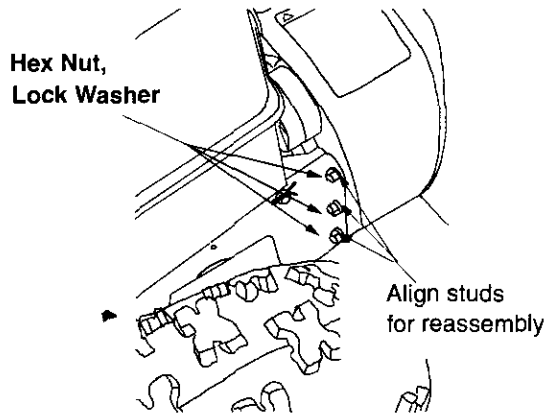

Figure 26
- Remove the six hex nuts and lock washers which attach the auger housing assembly to the frame assembly. See Figure 26.
- Level the frame assembly and tip the auger housing forward to align studs with the corresponding holes on both sides of the frame assembly. See Figure 26. Push the frame assembly fully on to the studs.
- From the frame assembly side, insert six lock washers and hex nuts on to the studs. These pieces of hardware were removed earlier. See Figure 26. Tighten the nuts securely.